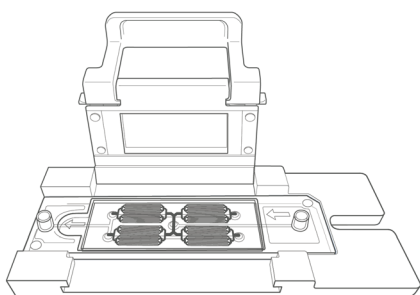

Fig. 23. Celselect Slide label-side up.
2. Place the Celselect Slide label-side up on top of the manifold, aligning the ports of the Celselect Slide within the five overmolded O-rings on the manifold (Figure 23).